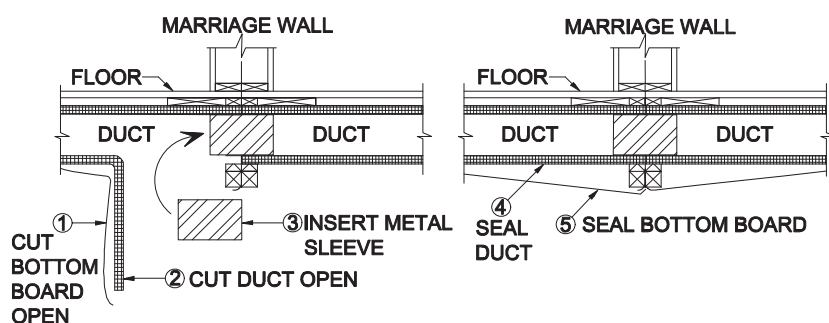

Figure 37. In-floor duct with crossover using metal sleeve
Join duct board ducts with a metal sleeve as follows (**Figure 37**):
2. **Open duct.** Create an opening in the duct by cutting the duct board as shown in **Figure 37**.